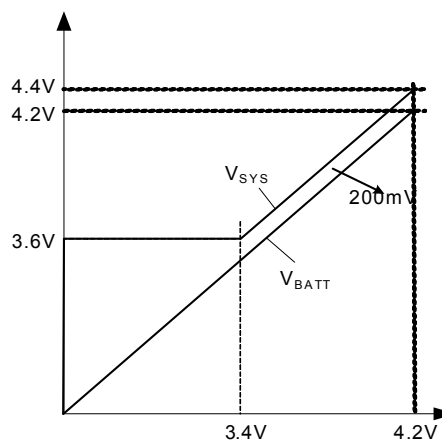

Figure 2: SYS Regulation Output
- 2) If  $BATT < 3.4V$ ,  $V_{SYS}$  is fixed at 3.6V to power the system immediately even when a drained battery is inserted to be charged. Figure 2 shows the relationship of  $V_{SYS}$  vs.  $V_{BATT}$ .
System voltage can also be regulated to any value between 4.08V to 4.4V by using a resistor divider on the SYSFB pin. This is shown as R6 and R7 in Figure 10. If the SYSFB is left floating, the system program is invalid, and  $V_{SYS}$  is regulated as Figure 2.